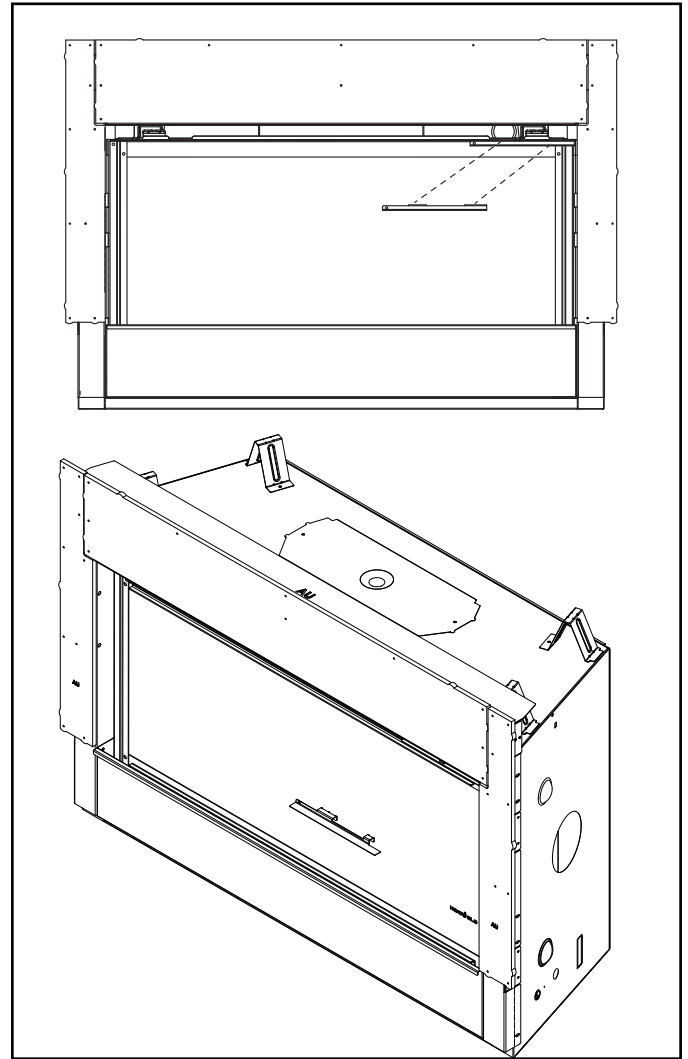

Figure 11.3 Separate Fan Bracket into Left and Right Brackets
3. Install the right bracket by installing it over the glass frame as shown in Figure 11.3.